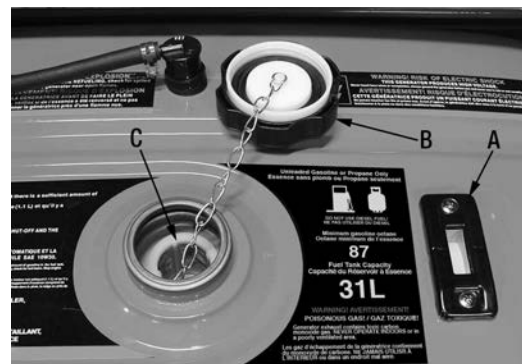

Figure 6
- 1) Check the fuel level indicator window (A) Fig.6, if the orange float gauge is all the way up, it is not necessary to add fuel. If you do not see or hardly see the orange float gauge, it is necessary to add fuel.
- 2) If it is necessary to add fuel, first make sure the engine is OFF, then open the fuel cap (B) Fig.6 by turning it counterclockwise.
- 3) Make sure the fuel filter cup (C) is positioned inside the tank opening before refueling.